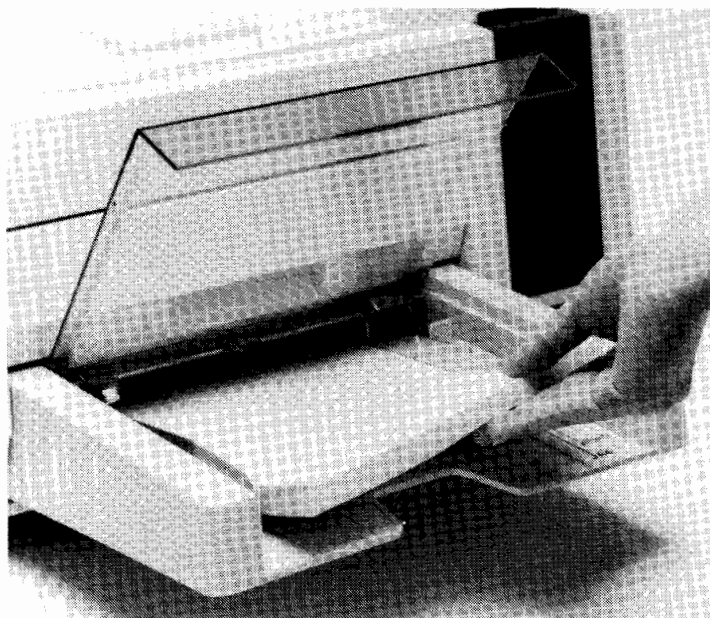

Figure 3-7. Adding Paper
- b. Slide paper into the bottom of the paper tray within the guide plates located on both sides (see figure 3-7).
- d. Add paper to the bottom of the paper tray along the guide plates located on both sides (see figure 3-7). Place paper in the paper tray with the side to be printed facing upward.